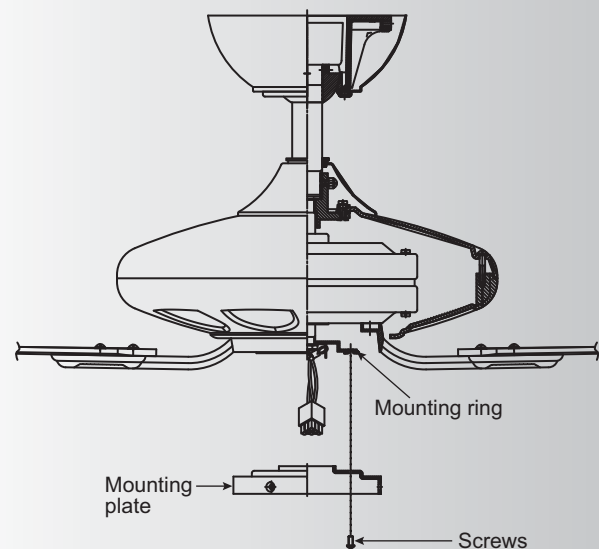

Fig. 15
Step 1. Loosen the two screws on the mounting ring attached to the motor shaft and "remove" and save the third screw. (Fig. 15)
Step 2. Place the key holes on the mounting plate over the 2 screws previously loosened from the mounting ring, turn mounting plate until it locks in place at the narrow section of the key holes. Secure by tightening the 2 screws previously loosened and the one previously removed. (Fig. 15)